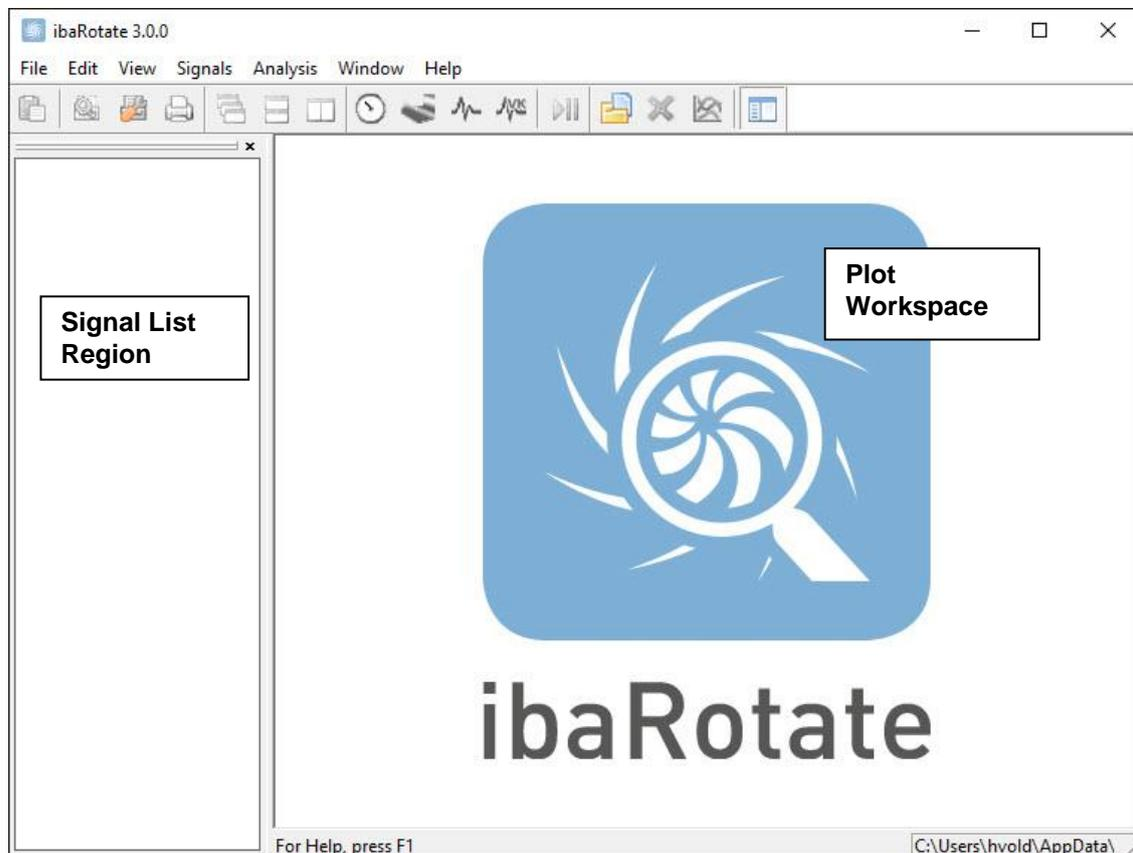

Figure 4: ibaRotate Main Window with empty signal list window
2. The ibaRotate program window appears (see Figure 4).
The signal list window is shown on the left side of the main window in Figure 4.